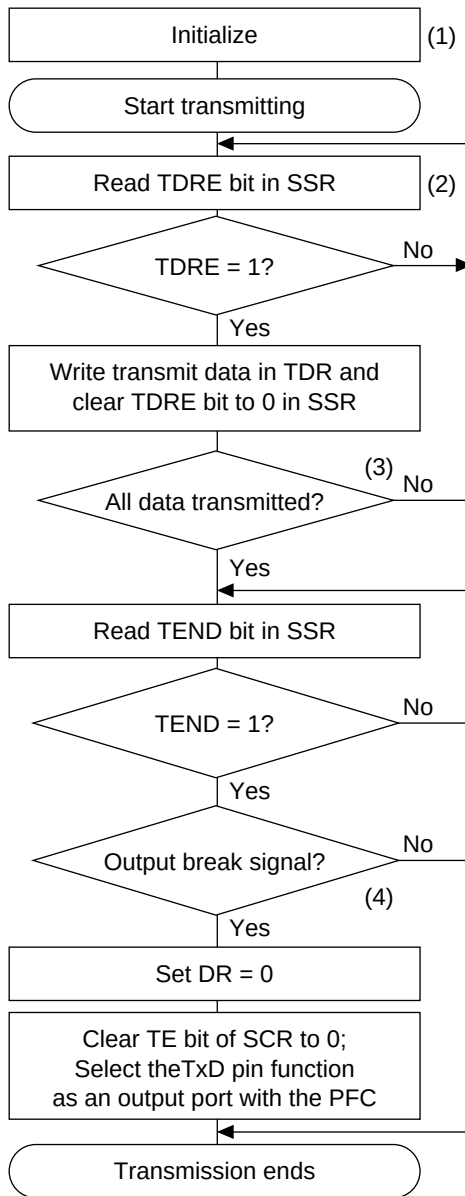

**Figure 13.5 Sample Flowchart for Transmitting Serial Data**
**Transmitting Serial Data (Asynchronous Mode):** Figure 13.5 shows a sample flowchart for transmitting serial data. The procedure for transmitting serial data is as follows:
3. To continue transmitting serial data: read the TDRE bit to check whether it is safe to write (1); if so, write data in TDR, then clear TDRE to 0. When the DMAC is started by a transmit-data-empty interrupt request (TXI) to write data in TDR, the TDRE bit is checked and cleared automatically.